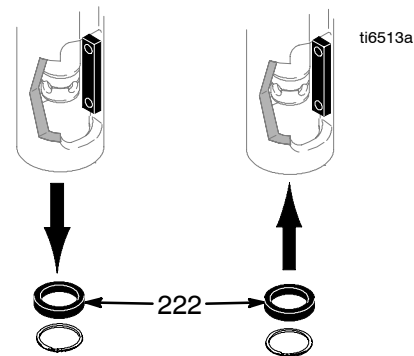

Fig. 10
4. Fig. 10. Remove ring magnet (150).
1. Fig. 10. Install new ring magnet (222) with dimple marks facing down.